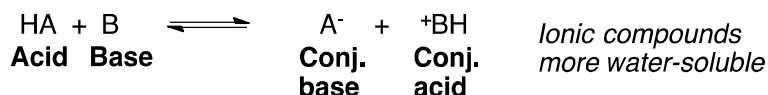

Figure 2. A generic acid-base reaction.
Acids (HA) react with bases (B) to form a conjugate base (A⁻) and a conjugate acid (⁺BH) (**Figure 2**). It is likely that one or both of the products are ionic compounds, making them significantly more soluble in water than their non-charged counterparts. In this experiment, we will learn how to take advantage of this change in solubility for the separation of a mixture of acids and bases.